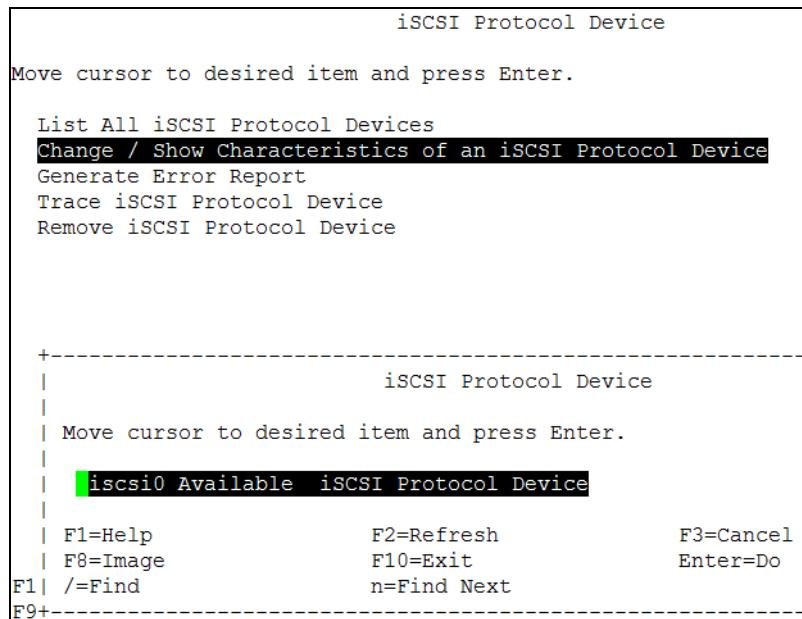

Figure 7-3 Selecting *iscsi0* from the iSCSI Protocol Device menu
3. Select **iscsi0**, as shown in Figure 7-3.